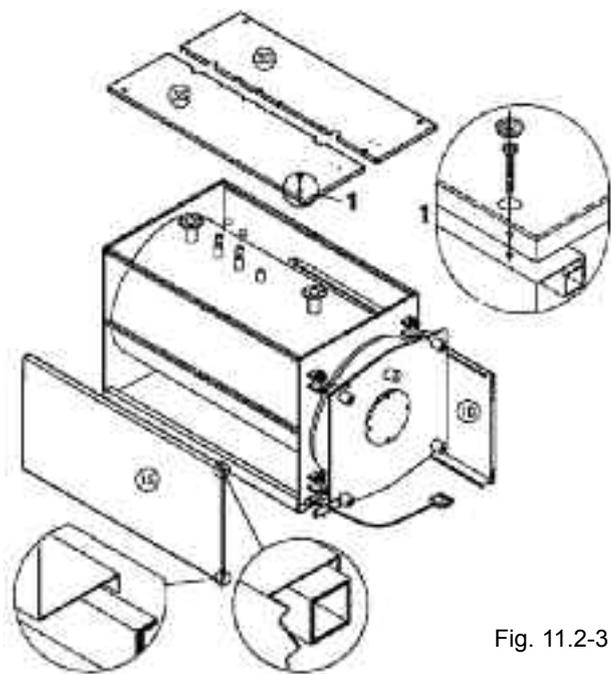

Fig. 11.2-3
- Loosen screw (V) and rotate towards you the frontal part of the electric control panel (see fig.11.2-3) and remove the half cut plastic plate K
- Pass the burner connection plug through the slot on the lower side of boiler front plate and insert the thermometer and thermostats bulbs in the slot on panel (5) and in the wells P